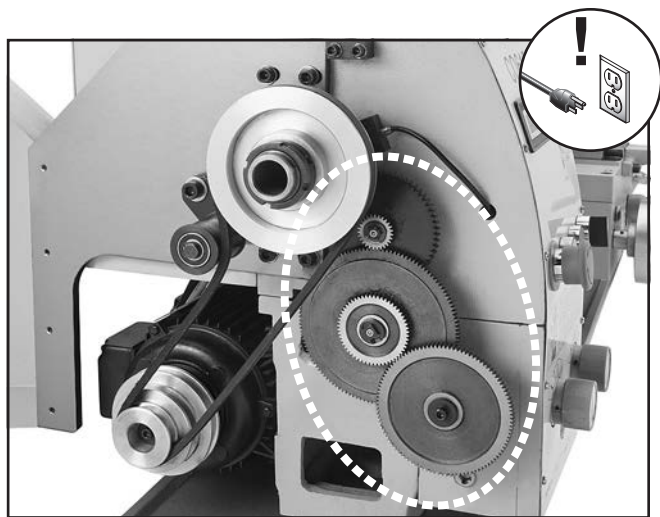

Figure 86. Change gears.
The change gears, shown in **Figure 86**, should always have a thin coat of heavy grease to minimize corrosion, noise, and wear. Wipe away excess grease that could be thrown onto the V-belts and reduce optimal power transmission from the motor.
2. Open the change gear cover and remove all the change gears shown in **Figure 86**.